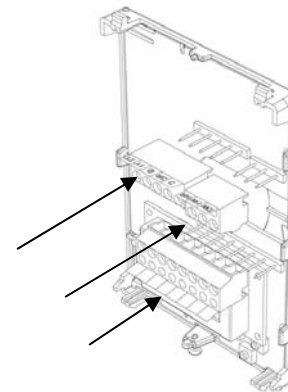

Fig.5
11. Gently push back into hole excess wiring **(Fig. 5)**
12. Re-Install wiring terminals in correct location. **(Fig. 5)**